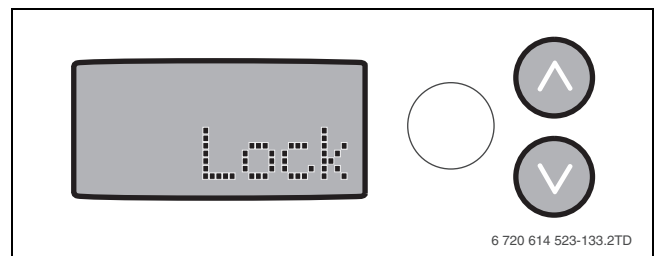

Fig. 64 Display - Lock
- ▶ The word “Lock” is displayed for 5 seconds (→ figure 64). The information menu remains readable.